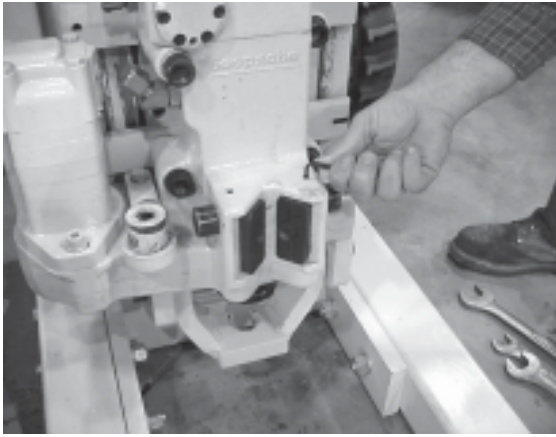

Figure 6. Unthread and remove set screws.
8. Remove the two 5/16 x 3/8 inch set screws above each rod grip pull stud using a 5/32-inch Allen wrench as shown in Figure 6.